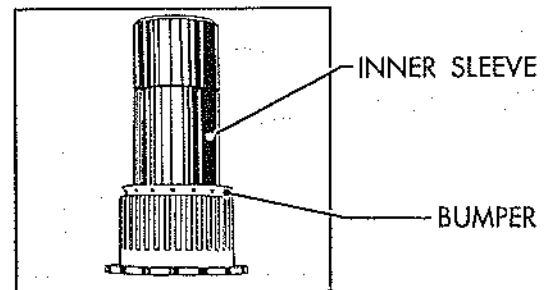

Figure 73
(1) Slide the bumper over the inner sleeve until the bumper rests snugly against the shoulder as shown in Fig. 73.